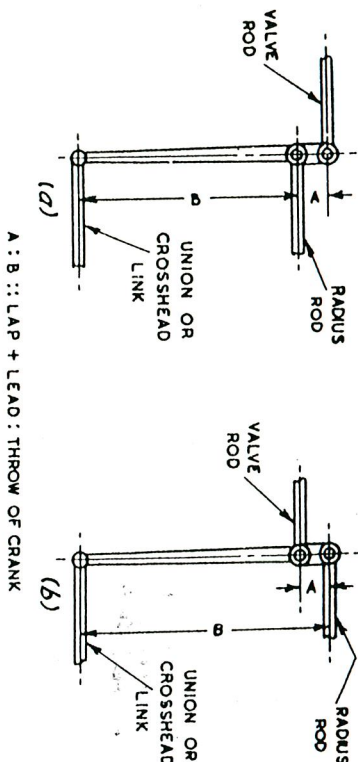

FIG. 52-6.
Referring to FIG. 52-6(a), it will be seen that for outside admission valves the radius rod is attached to the combination lever at a point beneath the point of attachment of the valve rod. For inside admission valves, however, the following alterations to the valve gear are necessary, since,
- (b) The points of attachment of the radius rod and valve rod must be reversed; the radius rod is thus attached to the combination lever above the point of attachment of the valve rod, see FIG. 52-6(b).